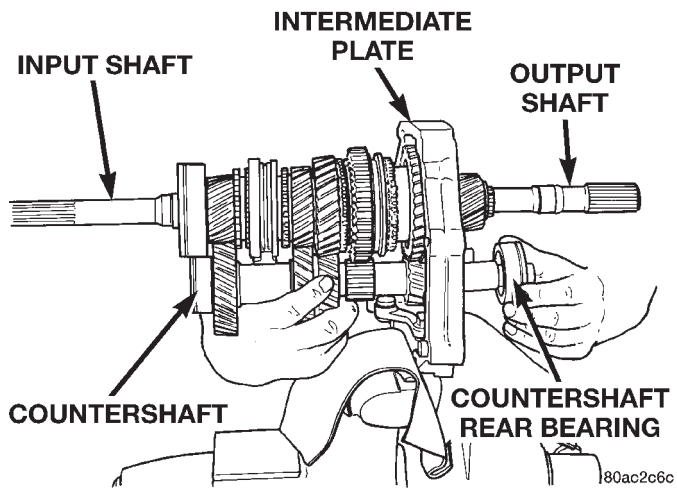

Fig. 62 Remove Countershaft and Countershaft Rear Bearing
(15) Remove countershaft rear bearing snap-ring.
(16) With aid of an assistant, support the mainshaft and countershaft. Tap on the rear of the mainshaft and countershaft with a suitable plastic mallet. This will release the countershaft from the countershaft rear bearing and the mainshaft rear bearing from the intermediate plate. The countershaft will release from the countershaft bearing first and can be removed by moving the countershaft rearward and downward (Fig. 62).